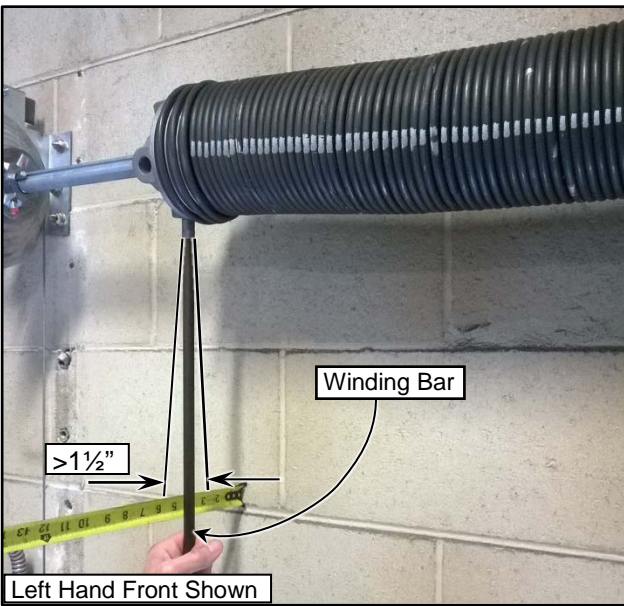
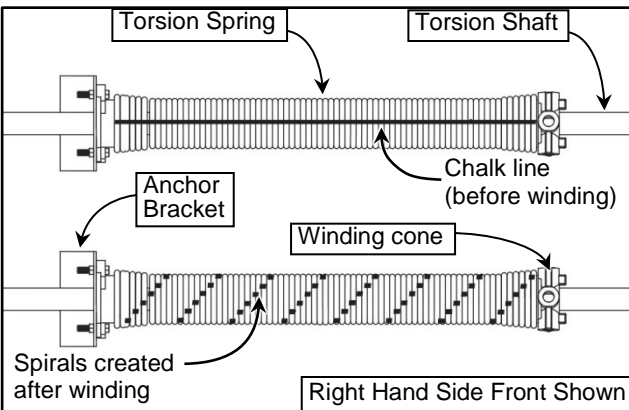

Figure 82
Figure 83
5. Test the fit of the bar in the cone. Insert one end of your winding bar into one of the holes of the winding cone. Pull down on the bar slightly to make sure the set screws are tight. Position your ruler between the bar and the door. Move the bottom of the bar from side to side and measure the play. It should be less than an inch and a half. If it is over 2" get bars that will properly fit the cones. (See Figure 82 and Figure 83)
- Draw a straight chalk line horizontally along the center of the torsion spring. The spiral can be used to count and determine the number of turns that are applied in winding the spring. (See Figure 83)